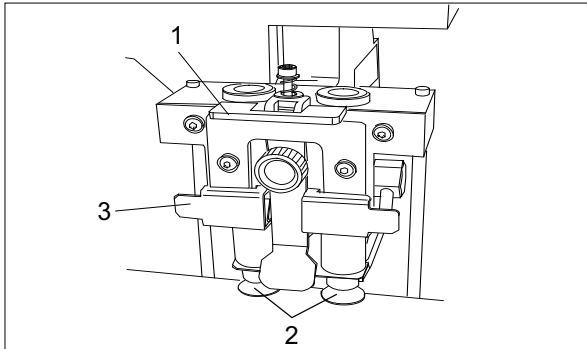

Fig. 28 Lifting suckers
1. Pull the bracket (Fig. 28/1) all the way upwards.
2. Slide the lifting suckers (Fig. 28/2) to the top position.
3. Push the lock lever (Fig. 28/3) backwards.